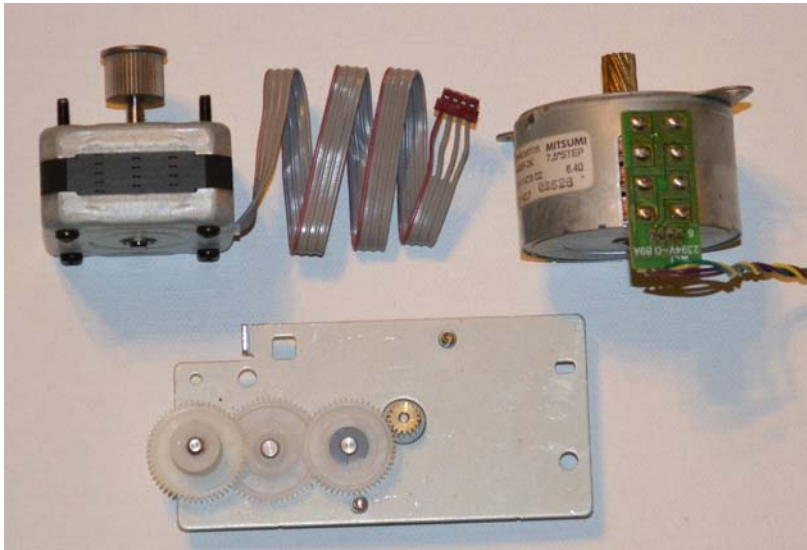

Figure 3-4. A few bipolar stepper motors, noted as having four wires on each motor
- *Bipolar:* These stepper motors have two coils that are typically identified by having exactly four wires (see Figure 3-4). Each set of wires is connected to a motor coil and can be identified by measuring the coil resistance with a multi-meter. Each coil in the stepper motor must be switched in a special sequence in order to turn the output shaft—requiring that each of the four motor wires must be driven by its own signal amplifier to operate the motor (or a dual motor-controller).